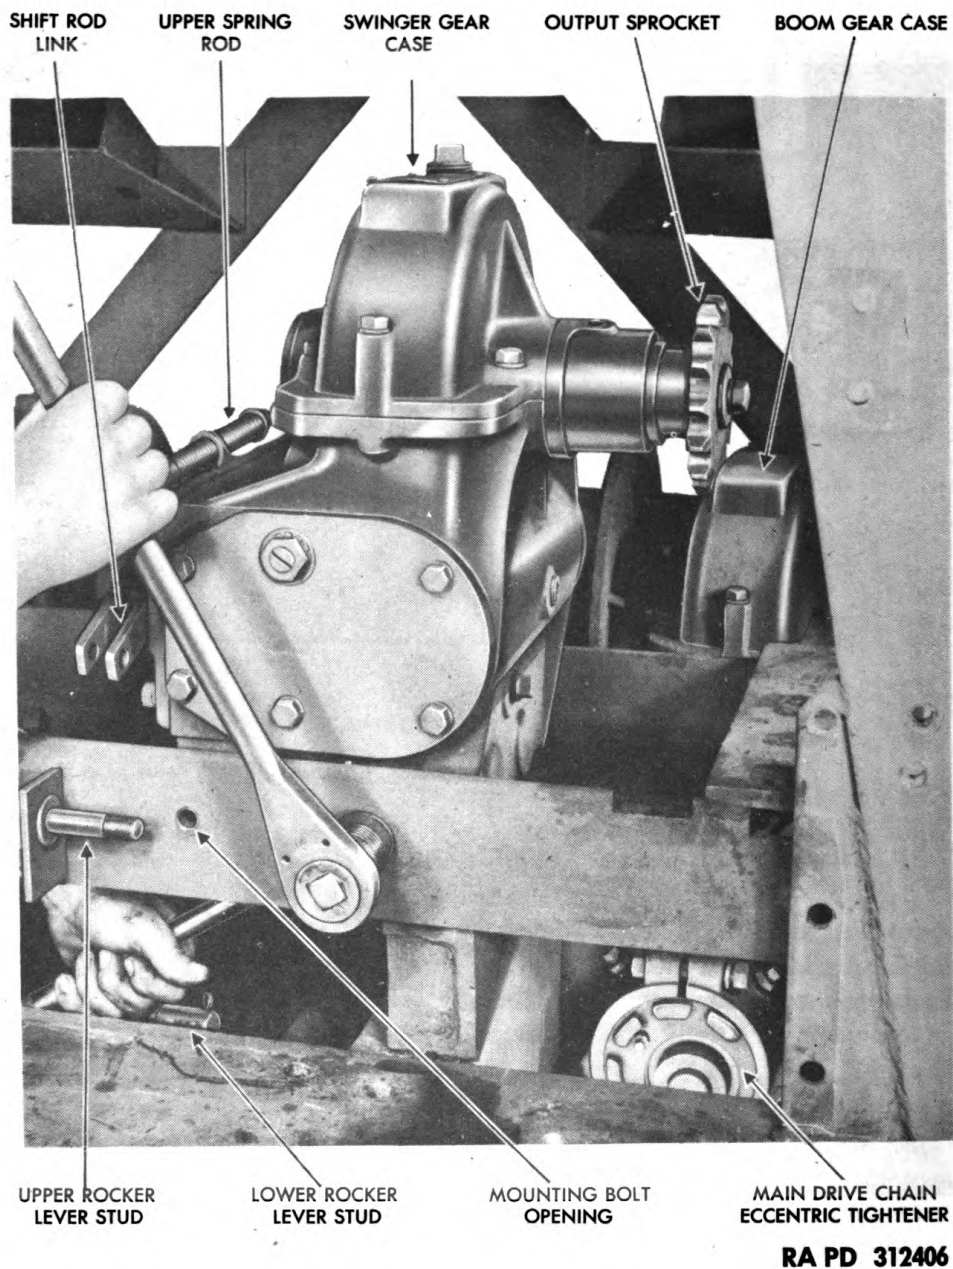

Figure 11 — Removing Swinger Gear Case Pivot Bolt
f. **Remove Swinger Gear Case.** Remove two $\frac{1}{2}$ -inch and two $\frac{7}{8}$ -inch bolts, nuts, and lock washers securing swinger gear case to gear case base angles (fig. 11). An opening has been provided in the top deck of the crane A-frame to provide a means of lifting the gear cases out of the crane frame. Place a chain around the input and output sprockets and over the top of the gear case. Raise the chain hoist sufficient to clear the gear case of its base angles and then as the